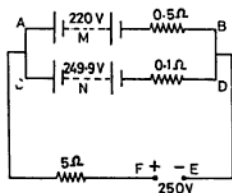

Fig. NE 9.29
- 9.29 Two batteries  $M$  and  $N$  are connected to a 250 V dc supply for charging through the  $5\ \Omega$  resistance as shown in Fig NE 9.29. Battery  $M$  is of emf 220 V and internal resistance  $0.5\ \Omega$  and battery  $N$  of emf 249.7 V and internal resistance  $0.1\ \Omega$ . Find (i) the value and direction of current in each battery and (ii) the total current taken from the supply.